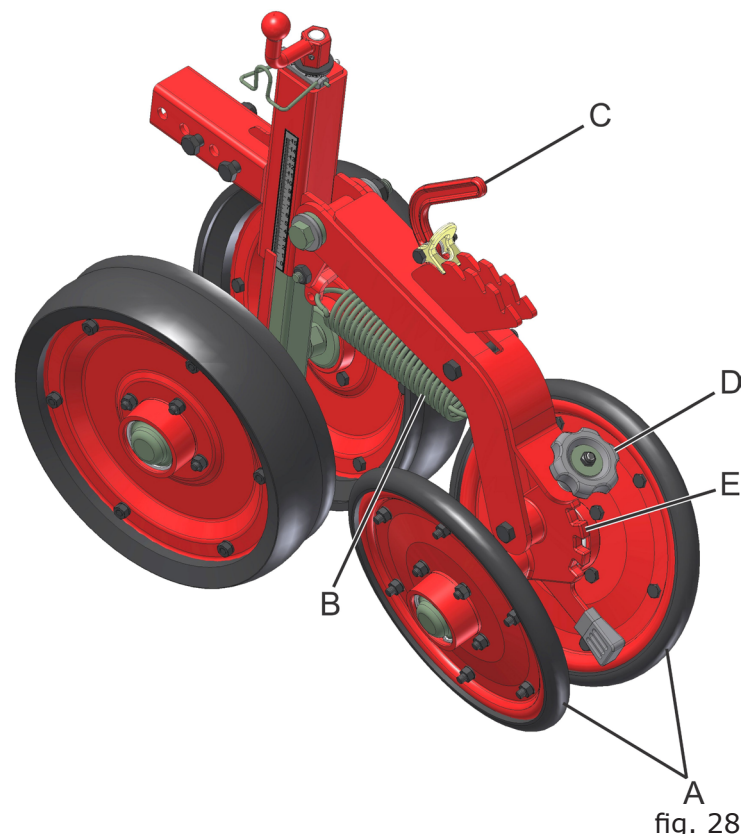

fig. 28
The "V" compaction strips (A) (fig. 28), perform soil pressure laterally on the seed and work with various adjustment options such as pressure and opening angle of the seed.
**Make sure that the lever (C) (fig. 28) and adjuster (E) are in the same position in all planting units.**